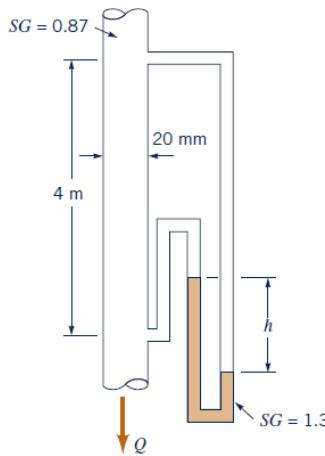

Figure P8.25
**8.25** Oil of  $SG = 0.87$  and a kinematic viscosity  $\nu = 2.2 \times 10^{-4} \text{ m}^2/\text{s}$  flows through the vertical pipe shown in Fig. P8.25 at a rate of  $4 \times 10^{-4} \text{ m}^3/\text{s}$ . Determine the manometer reading,  $h$ .